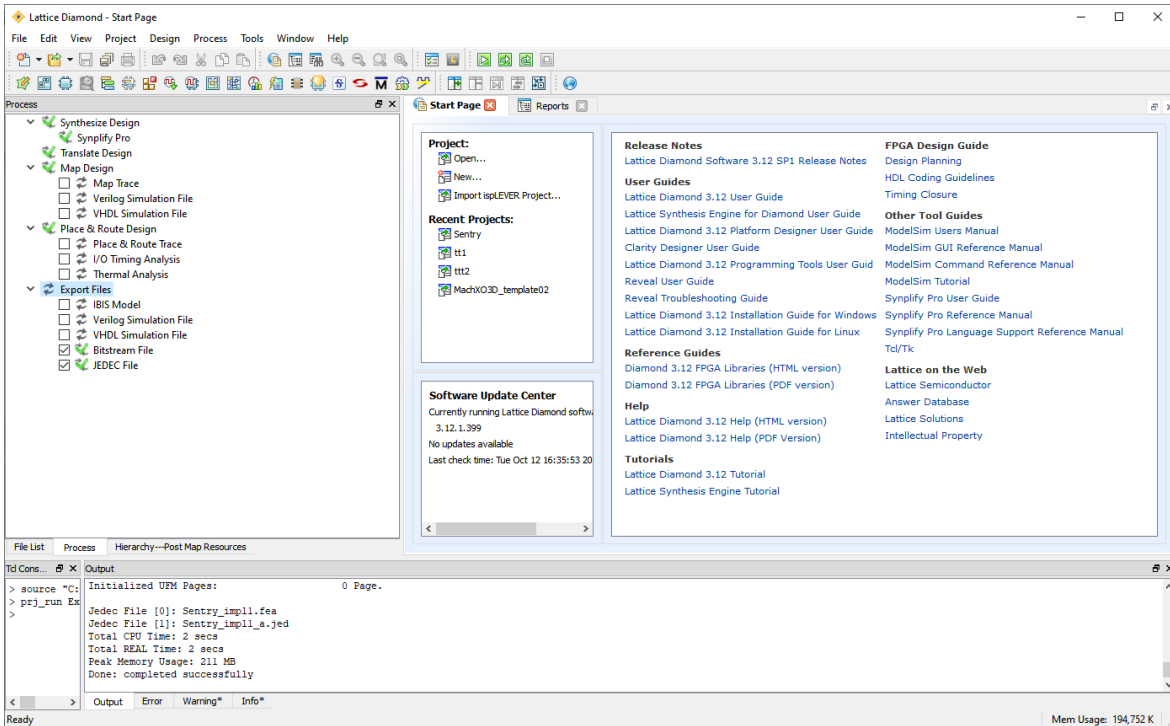

Figure 2.114. Generate Programming Files
- b. Switch to **Process** view of the Diamond project (Figure 2.114). Make sure at least one programming file (bitstream File or JEDEC file) is selected in the **Export Files** section. Available programming files can be different upon specific device included.